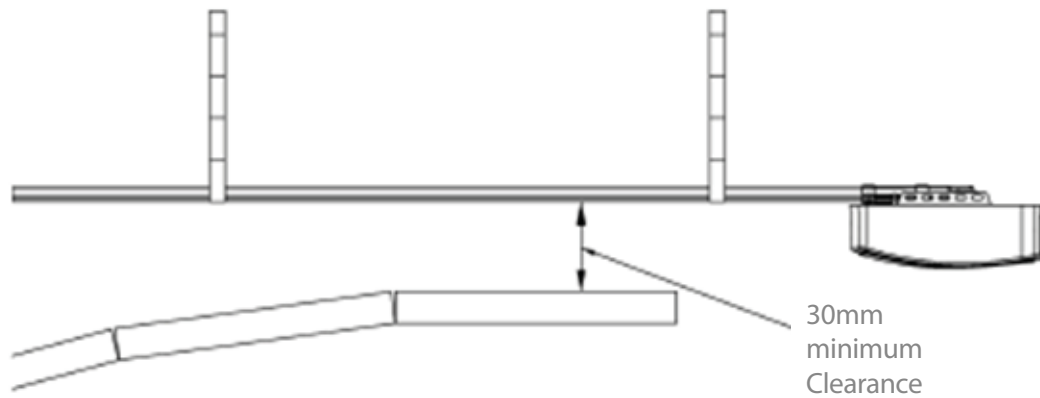

Figure 2
5) There should be a minimum gap of 30mm between the bottom of the chain drive rail and the top of the garage door at its closest point. (refer to Figure 2.)